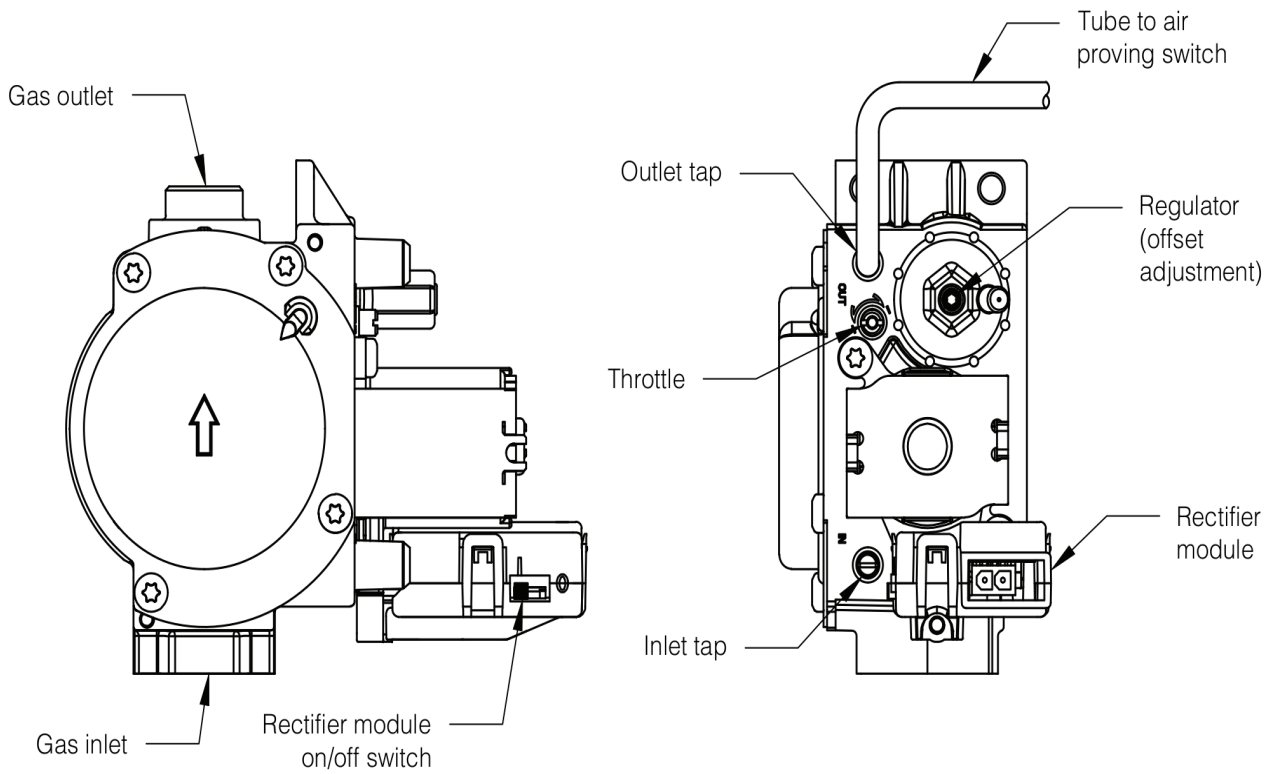

Figure 11.4: Gas Valve Detail (80B-180B)
- a. With burner at high fire, adjust gas valve throttle (Fig 11.4 and 11.5) as needed to obtain CO₂ (or O₂) setting shown in Table 11.5A.
- b. With the burner at low fire, adjust gas valve offset regulator (Fig 11.4 and 11.5) as needed to obtain CO₂ (or O₂) setting shown in Table 11.5A.